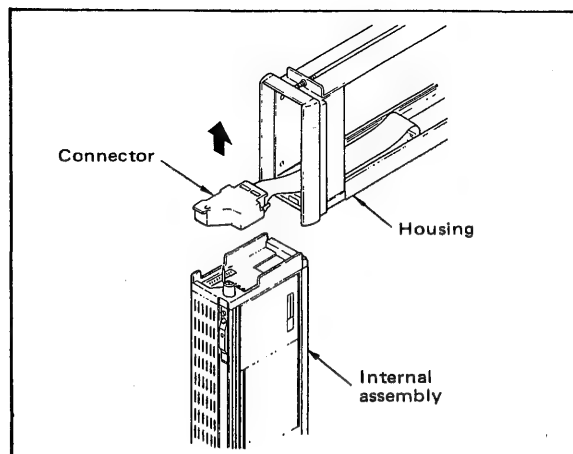

Figure 5-2-3. Detaching Connector.
- (3) To separate the internal assembly from the housing, detach the connector from the assembly. (See Figure 5-2-3.)